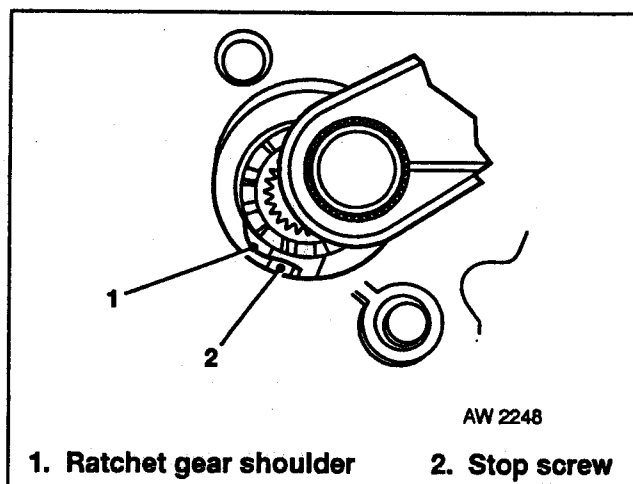

Fig 2.36 Kick-Start Ratchet Gear Position
- e. Slowly release the kick-starter lever and the ratchet gear will lean against the stop screw (Fig 2.36 refers).